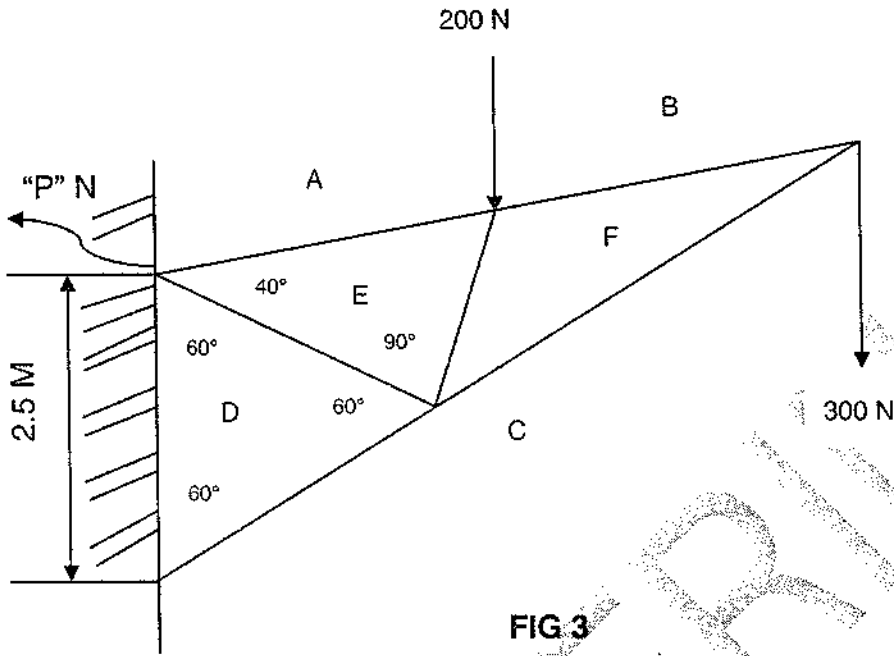

FIG 3
7.1 FIGURE 3 (DIAGRAM SHEET) shows a JIB crane frame. Determine graphically the magnitude of the forces in all the members. Show the nature of each member on the space diagram. Use the following scales: Space diagram: 1 : 50